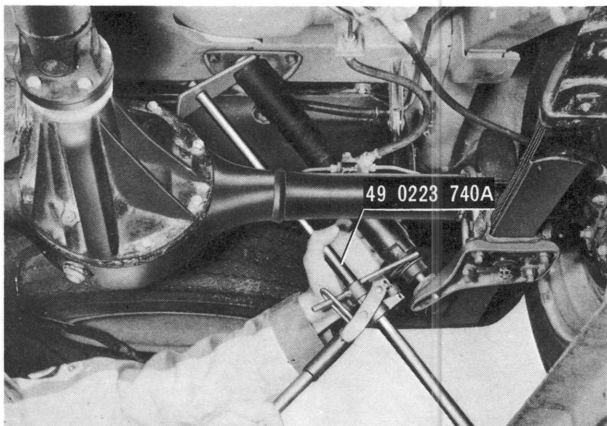

Fig. 13A-2 Compressing shock absorber
3. Compress the shock absorber with a **shock absorber lifter** (49 0223 740A) as shown in Fig. 13A-2.